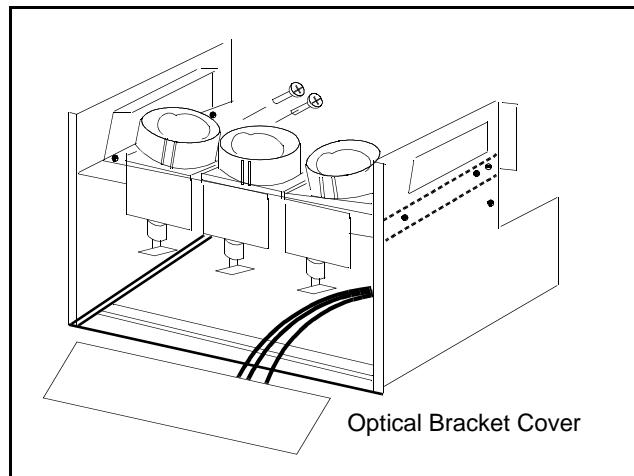

Figure 15. CRT Replacement.
7. Remove (2) screws from the defective CRT housing (Figure 15).\*\*
**CAUTION:** Do not remove the (4) CRT lens screws.